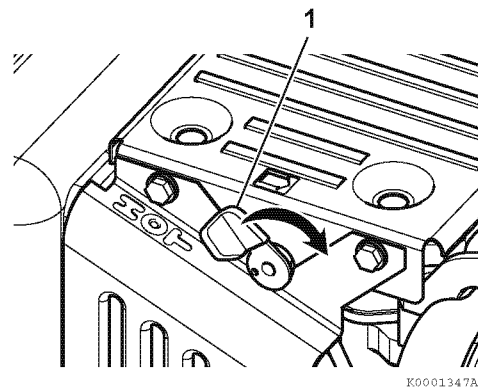

Figure 7
4. Push the decompression lever (1, **Figure 7**) down and release it. The decompression lever will automatically return to the original position when the engine starts.